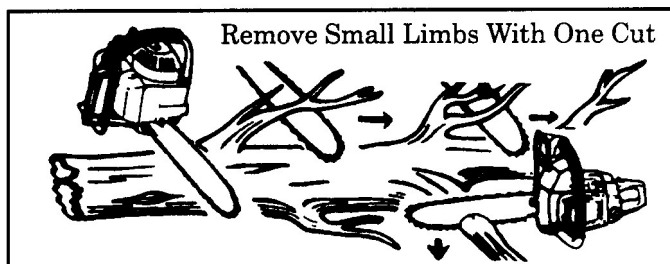

Figure 26
- c. **Start at the base of the felled tree and work toward the top,** cutting branches and limbs. Remove small limbs with one cut. Figure 26.